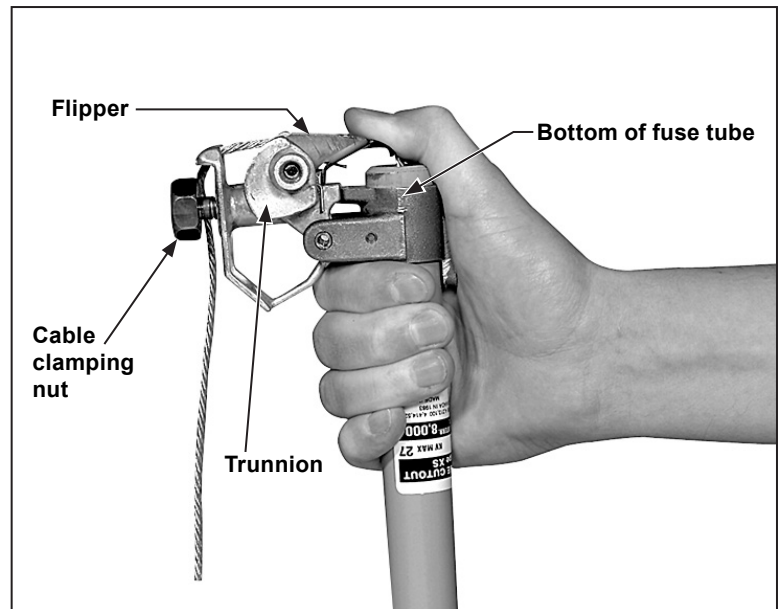

Figure 2a. Flipper fully pivoted.
**Step 3** Replace the fuse-tube cap on the fuse-tube upper ferrule and tighten the cap securely using a wrench. Loosen the cable clamping nut on the trunnion. See Figure 2a.
**Step 4** Rotate the flipper fully about its pivot until it reaches its stop (firm resistance is felt). See Figure 2a.